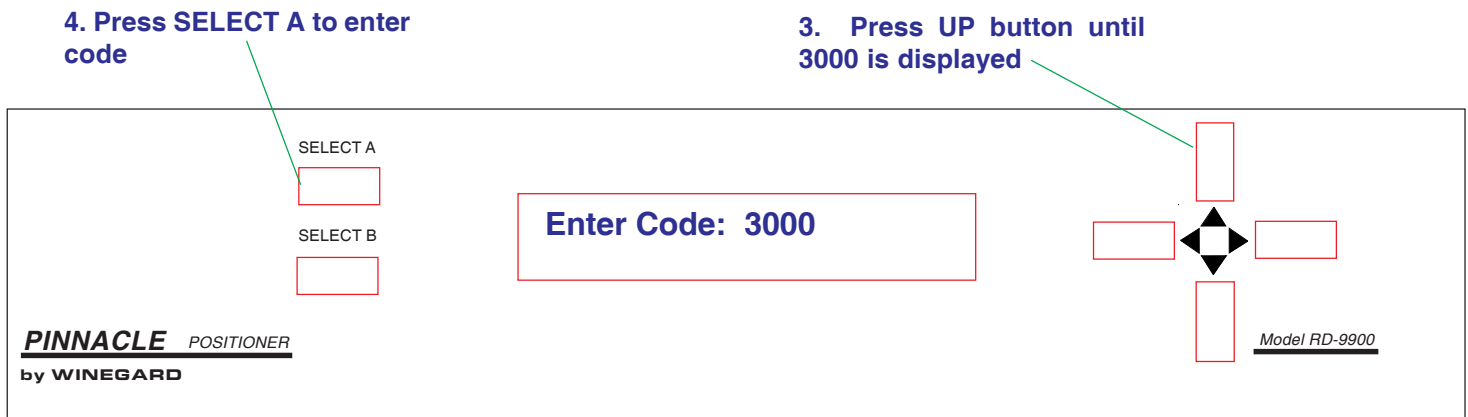

Figure 4
3. Press **[UP]** arrow button until positioner display shows **3000**. See Figure 4.
4. Press **[SELECT A]** Enter Code: 3000 to access Edit Menu. See Figure 4.